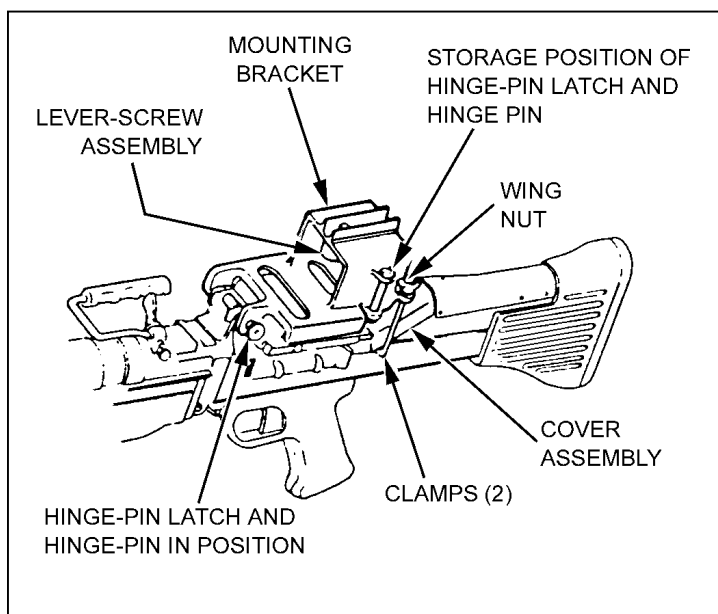

Figure G-57. Installation of mounting bracket.
(1) Locate and triangulate the center of the shot group. From the center of the shot group, adjust the reticle to move the center of the shot group to a point 8 cm below and 2 cm right of the target aiming point (Figure G-57). This location on the 25-meter zero target is 9 squares below (8 cm divided by .9) and 2 squares right (2 cm divided by .9) of the target aiming point. Make the adjustment using the AN/PVS-4 azimuth and elevation adjustment actuators. Each square on the 25-meter zero target is .9 cm. Each click of the actuators moves the strike of the round .25 cm (or .1 inch) at 10-meters. Therefore, 4 clicks on either the elevation or azimuth actuator moves the strike of the round one square.
(2) After making the adjustments, assume a stable position, place the reticle aiming point on the target aiming point, and fire three more single rounds. Repeat the process until the rounds impact within the desired location (9 squares below and 2 squares right).
(3) If you miss the 25-meter zero target with the first round but strike the 10-meter machine gun paster target, make a large adjustment with the elevation and azimuth actuators. Continue this process with three-round groups and adjustments until the rounds strike the desired location.
(4) Do not record the zero because when the AN/PVS-4 is dismounted and remounted on the same M249, some changes may occur. It is best to zero each time.
(5) Once the AN/PVS-4 is mounted and boresighted, fire a 3-round burst at the center base of the target and note the strike of the rounds. While maintaining the reticle aiming point on the target, move the reticle aiming point to the strike of the rounds by manipulating the elevation and azimuth actuators.
(6) Acquire a good sight picture on the target with the reticle aiming point once again and fire another 3-round burst. Note the strike of the rounds and repeat the process until the rounds impact on target.
(1) The gunner removes the M60 hinge pin latch and hinge pin from the over assembly by pressing on the latch (open end of pin) with an empty cartridge case, and separates the latch and pin. He places the pin and latch in the aiming guides on the left side of the mounting bracket and presses together.
(2) The gunner positions the mounting bracket assembly on top of the machine gun cover so that the holes in the front of the bracket align with the cover assembly pin holes.
(3) The gunner inserts the longer hinge pin supplied with the bracket through the bracket-and-cover assembly, and secures by inserting the hinge pin latch.
(4) The gunner loosens the wing nuts on both leg clamps and positions the clamps under the cover assembly. He secures the mounting bracket by tightening the wing nuts firmly (Figure G-57).
(5) The split washer is placed next to the wing nut and the flat washer is placed next to the bracket.